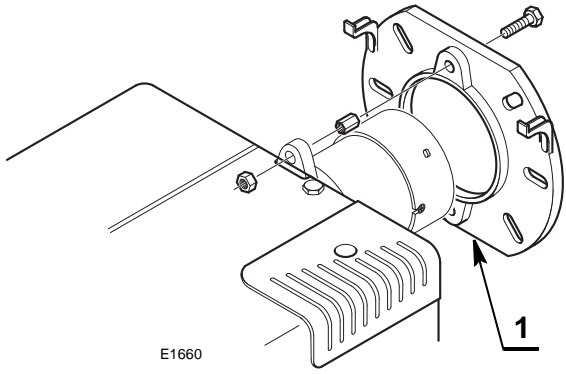

Fig. 6
- Put on the flange 1)(Fig. 6) the screw and two nuts.